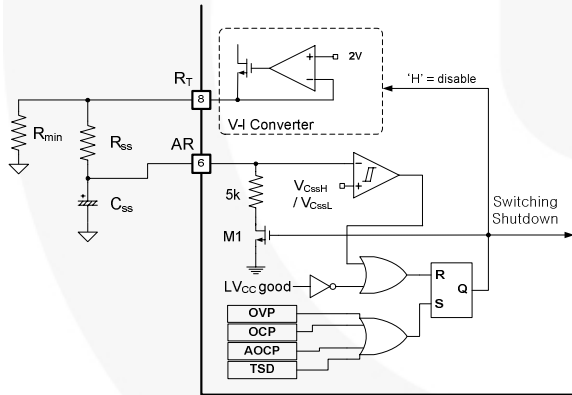
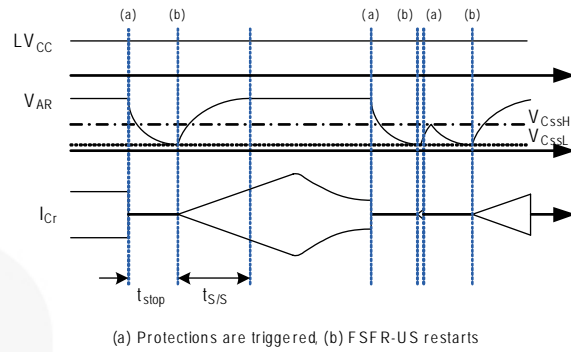

Figure 20. Internal Block of AR Pin
Figure 21. Self Auto-Restart Operation
4. Self Auto-restart: The FAN7621S can restart automatically even if a built-in protection is triggered with external supply voltage. As shown in Figure 20 and Figure 21; once any protections are triggered, M1 switch turns on and V-I converter is disabled. C_{SS} starts to be discharged until the $V_{C_{SS}}$ across C_{SS} drops to $V_{C_{SSL}}$. Then all protections are reset, M1 turns off, and V-I converter resumes. The FAN7621S starts switching again with soft-start. If the protections occur while $V_{C_{SS}}$ is under $V_{C_{SSL}}$ and $V_{C_{SSH}}$ level, the switching is terminated immediately, $V_{C_{SS}}$ continues to increase until reaching $V_{C_{SSH}}$, then C_{SS} is discharged by M1.
5. Protection Circuits: The FAN7621S has several self-protective functions, such as Over-Current Protection (OCP), Abnormal Over-Current Protection (AOC), Over-Voltage Protection (OVP), and Thermal Shutdown (TSD). These protections are auto-restart mode protections, as shown in Figure 21.